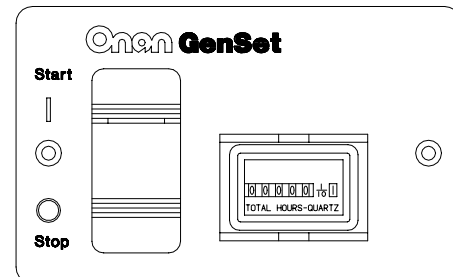

FIGURE 5. REMOTE START/STOP, HOUR METER
- Remote switch with indicator lamp and hour meter (Figure 5).